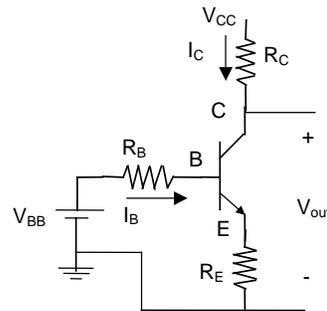
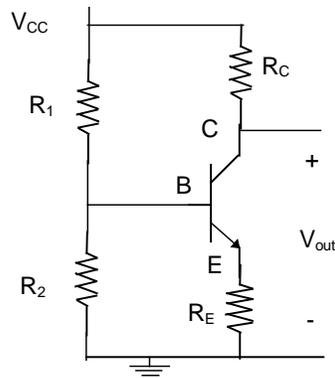
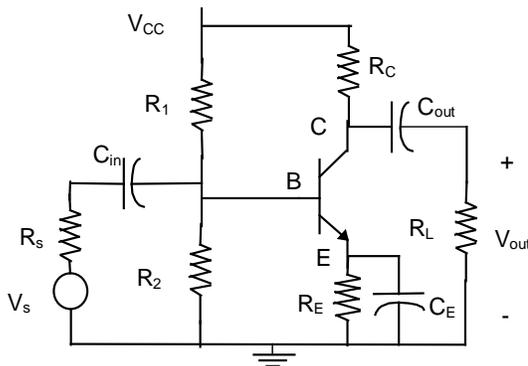

Fig. 2. Basic common emitter amplifier with reduced β_f sensitivity.
Fig. 3. Basic common emitter amplifier biasing with reduced β_f sensitivity and employing a single DC voltage.
Fig. 4. Basic common emitter amplifier biasing with reduced β sensitivity and employing a single DC voltage with an AC input voltage.
Figure 2 shows a more robust design with resistor R_E placed in the emitter branch of the circuit. The DC analysis of this new circuit for the collector current results in:
The schematics for these circuits indicate that two power supplies are required, one for V_{BB} and another for V_{CC} . The circuit in Fig. 3 shows a scheme where only one power supply is required. The Thévenin equivalent for the circuit consisting of V_{CC} , R_1 , and R_2 in Fig. 3 results in the biasing circuit of Fig. 2, where $V_{BB} = V_{th}$ and $R_B = R_{th}$. With these Thévenin equivalents substituted into the circuit, the circuit is identical to the circuit in Fig. 2 with the exception that the input bias voltage V_{BB} is now dependent on V_{CC} . The V_{BB} voltage is now controlled by the proper choice of R_1 and R_2 . This eliminates the need for a separate power supply to control V_{BB} .
Once the circuit in Fig. 3 is biased, it may be used as a voltage amplifier by connecting an input signal source to the base of the transistor, and connecting a load to the collector. These connections are coupled through a capacitor, as shown in Fig. 4, in order to prevent the source and load from altering the BJT's DC operating point. The capacitor C_{in} between the signal source and base voltage of the transistor keeps the DC voltage at the transistor base from being affected by the AC source's low impedance. In the same way, capacitor C_{out} ensures that the added load resistance does not change the DC voltage at the collector. These capacitors perform this function by being open circuits at DC. At the small AC signal frequencies, the capacitor values are chosen to have low impedance, allowing the AC signals to pass through. By the proper choice of C_{in} and C_{out} these capacitors can be treated as short circuits at the frequencies of interest.
The negative feedback that stabilizes the BJT's DC operating point also reduces the gain of the amplifier. The capacitor C_E in Fig. 4 remedies this problem by shorting out R_E for AC signals (also called "small" or "incremental" signals). Thus, the capacitor C_E effectively bypasses R_E ensuring the maximum AC gain.
Lower case letters are typically used for the AC component and upper case letters are used for the DC component. In the small signal model of the BJT, shown in Fig. 4, r_π is the incremental resistance of the base-emitter junction, β is the ratio $\Delta i_C / \Delta i_B$ at constant collector to emitter voltage, and $r_o = \Delta V_{CE} / \Delta i_C$ at constant base current. The resistor r_o accounts for the small slope of the I-V characteristics in the forward-active region. It is large and often treated as infinite. The BJT input resistance r_π is computed once the DC or quiescent analysis is complete just as the MOSFET's g_m is computed once the DC or quiescent analysis is complete. The resistance r_π is found from linearizing the nonlinear base-emitter characteristic, which is an exponential function that models the diode-like interface.
1. Derive the equation for the DC load line for the BJT circuit in Fig. 3 or equivalently Fig. 4 in terms of the variables V_{CC} , R_C , β_f , and R_E . (Hint: this equation will be in the format $i_C = (\dots - V_{CE}) / \dots$)
4. Use SPICE to find the circuit's DC operating point for the circuit in Fig. 3 with the values given/determined in the previous problems. Change β_f to 260 and then 50. Determine the change in the operating point (I_{CQ} and V_{CEQ}) that for each β_f value (keep the same resistor values). Comment on the changes in the quiescent points relative to the change in β_f .
11. For $\beta_f = 200$, $R_L = 1k\Omega$, and using the components computed above, create a SPICE model for the circuit in Fig. 4 and perform a transient analysis with an input sinusoid at 8 kHz with an amplitude that does not severely distort at the output. Use the SPICE plots to find the AC voltage gain, current gain, input resistance, and output resistance for the case where C_E is and is not included. Let your program run for 0.5ms. Include copies of the plots you used to extract the values used in your computations.
3. **BJT common emitter amplifier AC parameters:** Apply an 5 kHz sine wave to the input through an input capacitor close to, or larger than, the value computed in the prelab for C_{in} . Measure the output voltage between the output capacitor C_{out} and load resistor $R_L = 1k\Omega$ (See Fig. 4, insert C_{in} and C_{out} do not use C_E at this time). Observe and record the input, and output signals on the oscilloscope. Make sure the capacitor polarities are correct. Record the input and output waveforms. Determine the voltage gain $\left(Gain = \frac{\hat{v}_{out}}{\hat{v}_{in}} \right)$. (**Discussion:** Compare with your pre-lab values.)
4. **Effects of emitter by-pass capacitor:** Insert capacitor C_E shown in Fig. 4 into the circuit of the previous problem. Apply an input 8kHz sine wave signal that does not push the BJT into saturation or cutoff - you may need to build a resistive divider to supply an input small enough. Simultaneously observe the input and output signals on your oscilloscope. Record the waveforms and determine the small signal voltage gain of the amplifier. (**Discussion: Compare with your pre-lab values.**)